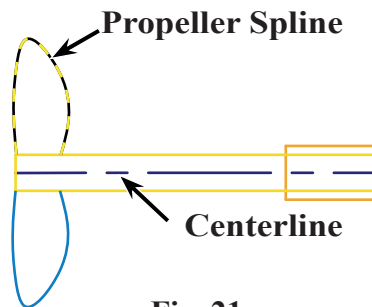

Fig. 21
Step 2. Click **spline** and click **End Selection**  (ENTER) Fig. 21.